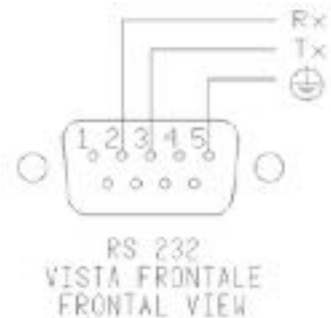

Fig.7
For PC control use the serial communication RS 232 (5) (references fig.7)